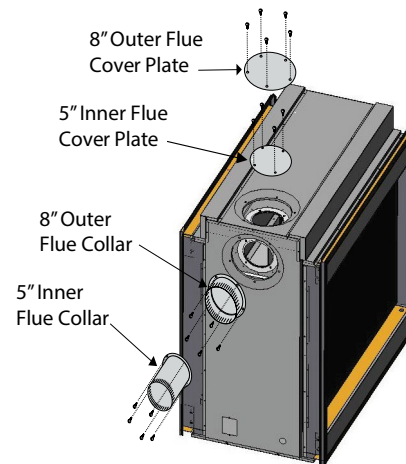

Figure 9a. Flue cover and collar installation, **Side Vented** fireplace.
3. Install the (removed) Side flue cover and gasket material, to the Top vent outlet. Fasten the cover with included hardware, as illustrated **Figure 9a**.